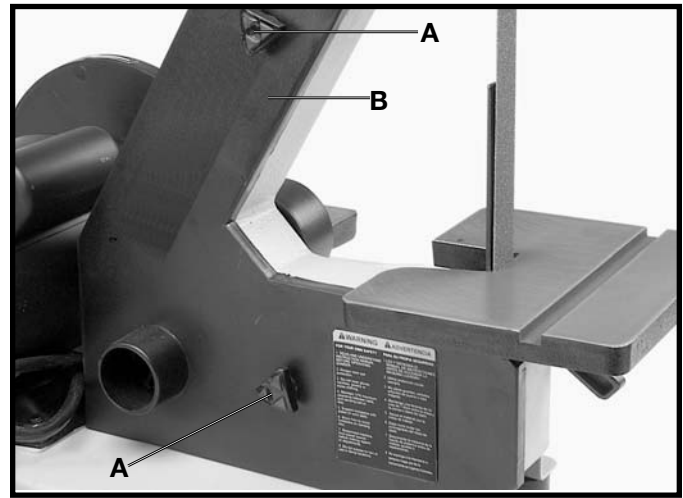

Fig. 31
2. Remove the two knobs (A) Fig. 31, and remove the side cover (B) from the belt unit.